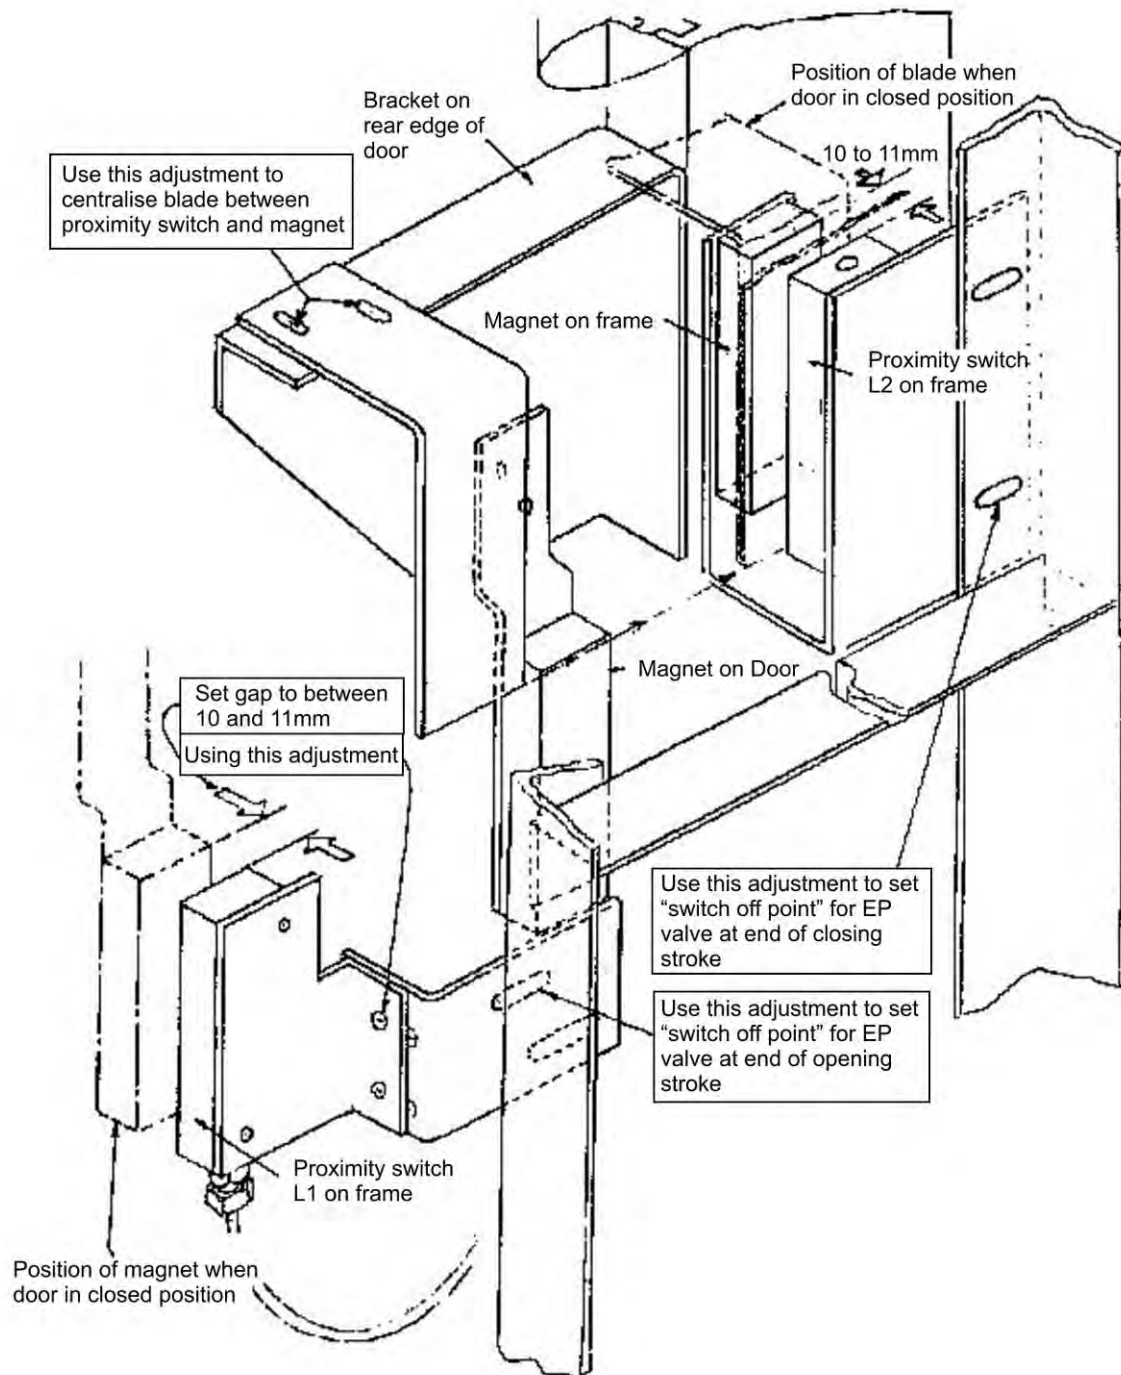

Figure 3: Adjustment of Proximity Switches and Magnets
- 1.9 Adjust proximity switches (see Figure 3).